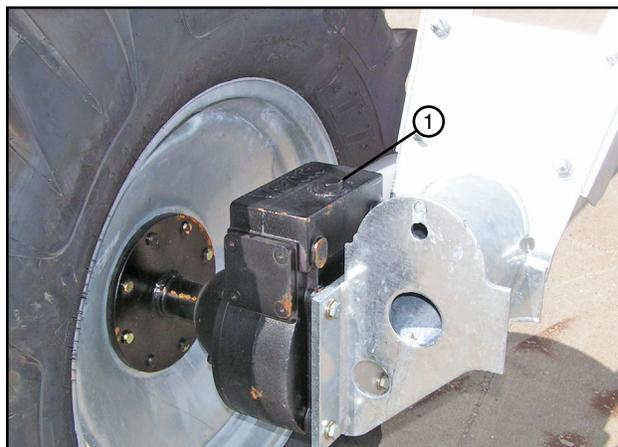

Figure 42-2 1. Fill Plug
3. Clean all of the dirt away from the fill plug. See figure 42-2.